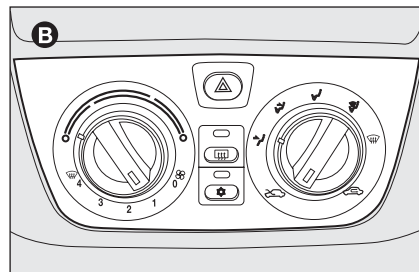

fig. 6
- with manual climate control system **B**-**fig. 6**;